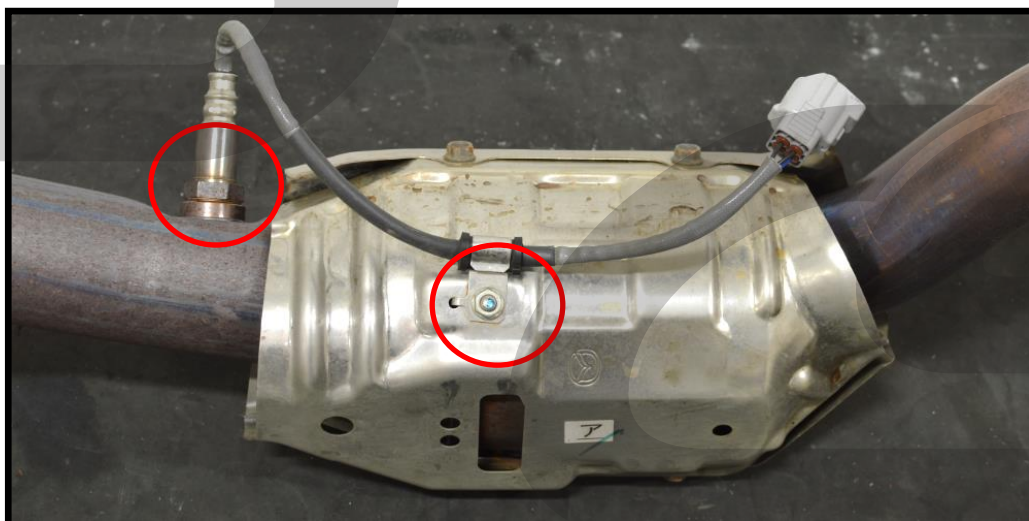

Figure 2e
- f) Remove the O2 sensor from the OEM mid-section exhaust. Remove the 10mm bolt holding the wire bracket then use a O2/oxygen sensor socket to remove the sensor. Both are shown in Figure 2e with red circles.